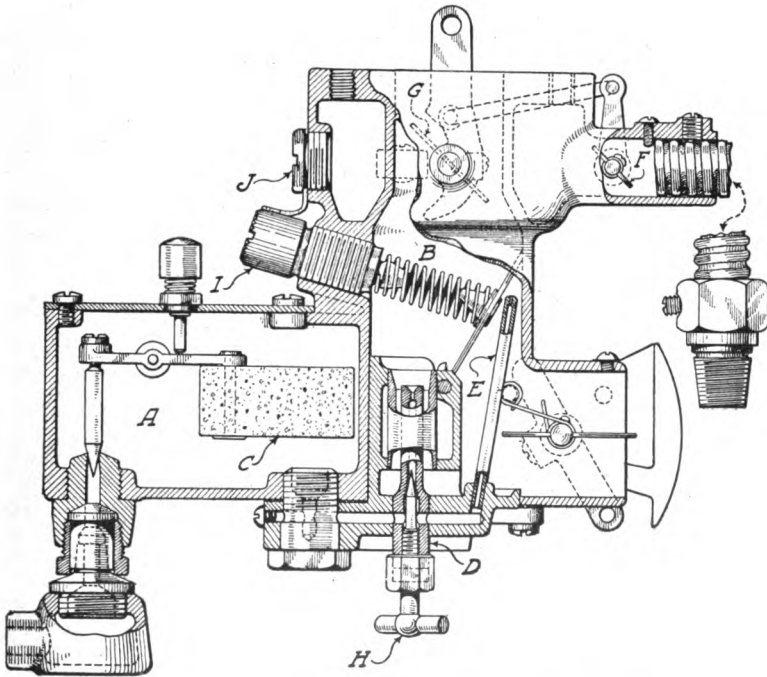

Fig. 109. Section through Marvel Carburetor, Model "E"
**Marvel Carburetor.** The Marvel carburetor, Model "E," shown in section in Fig. 109, is notable for using the exhaust gases